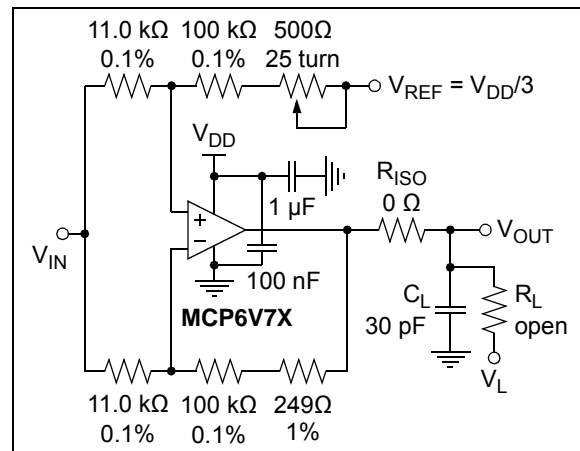

FIGURE 1-6: Test Circuit for Dynamic Input Behavior.
- Note 1:** These parameters were characterized using the circuit in Figure 1-6. In Figure 2-38 and Figure 2-39, there is an IMD tone at DC, a residual tone at 1 kHz and other IMD tones and clock tones.
The circuit in Figure 1-6 tests the input's dynamic behavior (i.e., IMD, t_{STR} , t_{STL} and t_{ODR}). The potentiometer balances the resistor network (V_{OUT} should equal V_{REF} at DC). The op amp's Common mode input voltage is $V_{CM} = V_{IN}/2$. The error at the input (V_{ERR}) appears at V_{OUT} with a noise gain of 10 V/V.